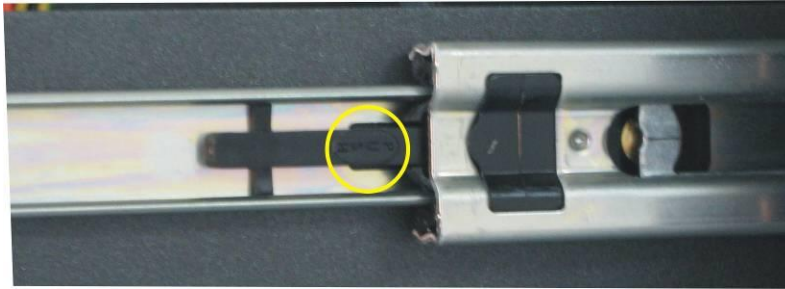

Figure 31 Rack slide lock
5. Now carefully insert the instrument into the rack by placing the instrument slides into the lid slides, ensure that the rack slide locks engage (Figure 31) on each side (you will hear a click) and gently slide the instrument into the rack.
2. Find the rack slide lock labelled push (Figure 31) and push it in whilst sliding the instrument out of the rack, complete this for both sides before carefully removing instrument